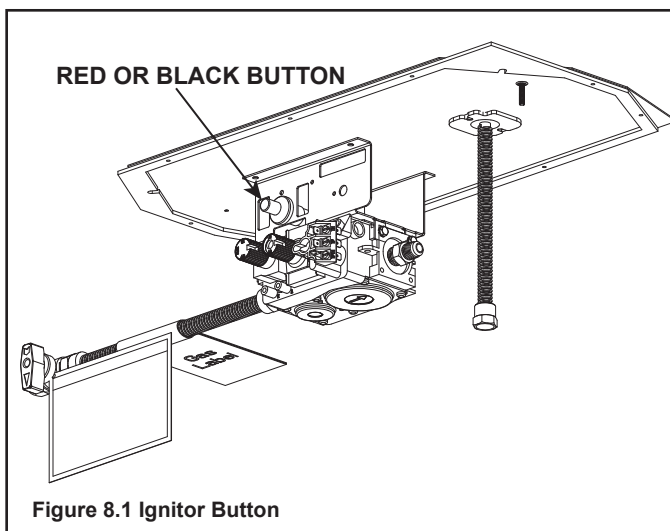

Figure 8.1 Ignitor Button
- A red or black ignitor button (as shown in Figure 8.1) indicates this appliance is standing pilot ignition.